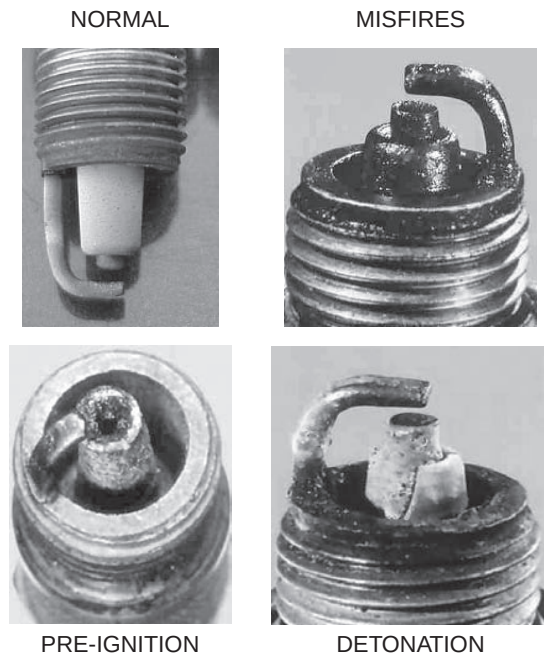

Figure 14. Spark Plug Conditions
3. Remove the spark plugs one at a time and inspect for the conditions shown in Figure 14.
1. If the spark plugs exhibit any possible signs of any of the symptoms shown in Figure 14, replace the spark plugs and investigate the possible cause of the problem.